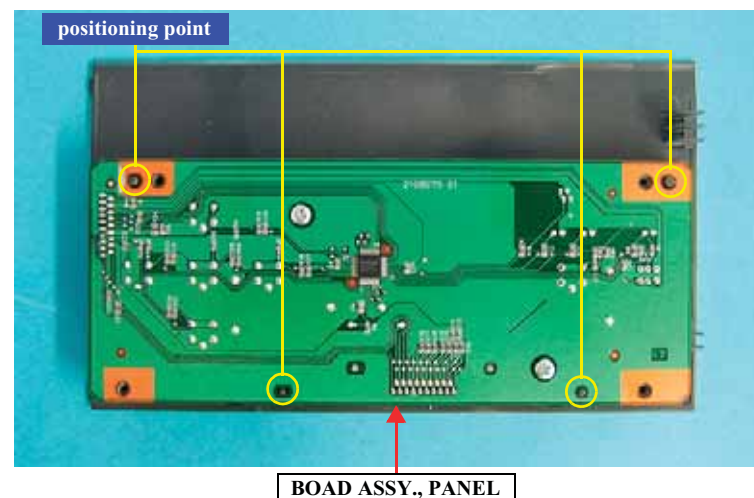

Figure 4-22. Removing the BOARD ASSY., PANEL
- When installing the BOARD ASSY. PANEL, be sure to insert its four positioning holes over the guide pins two each on the OPERATION BUTTON and the OPERATION PANEL. *See Figure 4-22.*